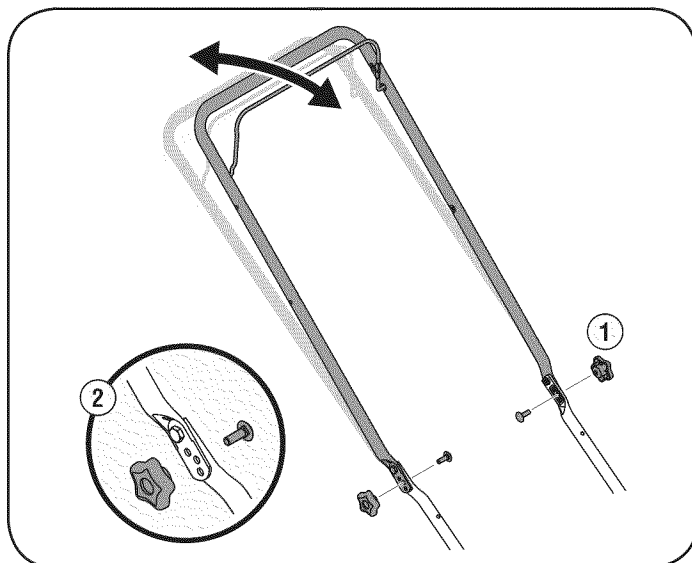

Figure 9
1. Remove wing nuts and carriage bolts from handle. See Figure 9.
2. Position the handle in one of the three positions that is most comfortable. See Figure 9 inset.